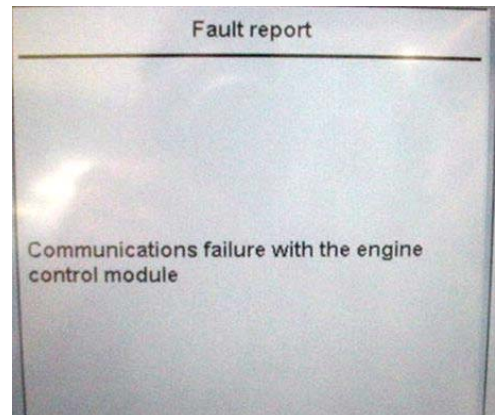

Fig. 1
1. Start programming the ECM as an existing module using the WDS. During the reprogramming process, the screen in figure 1 will appear.